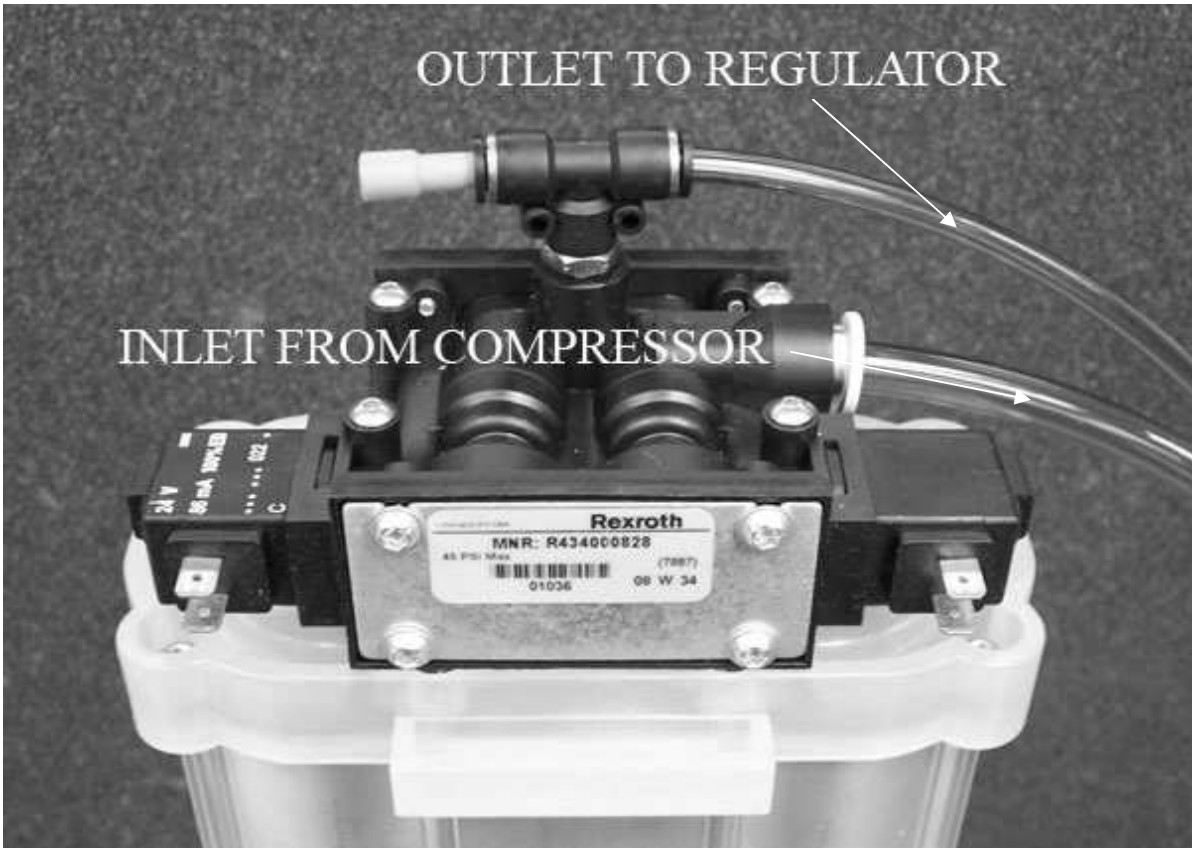
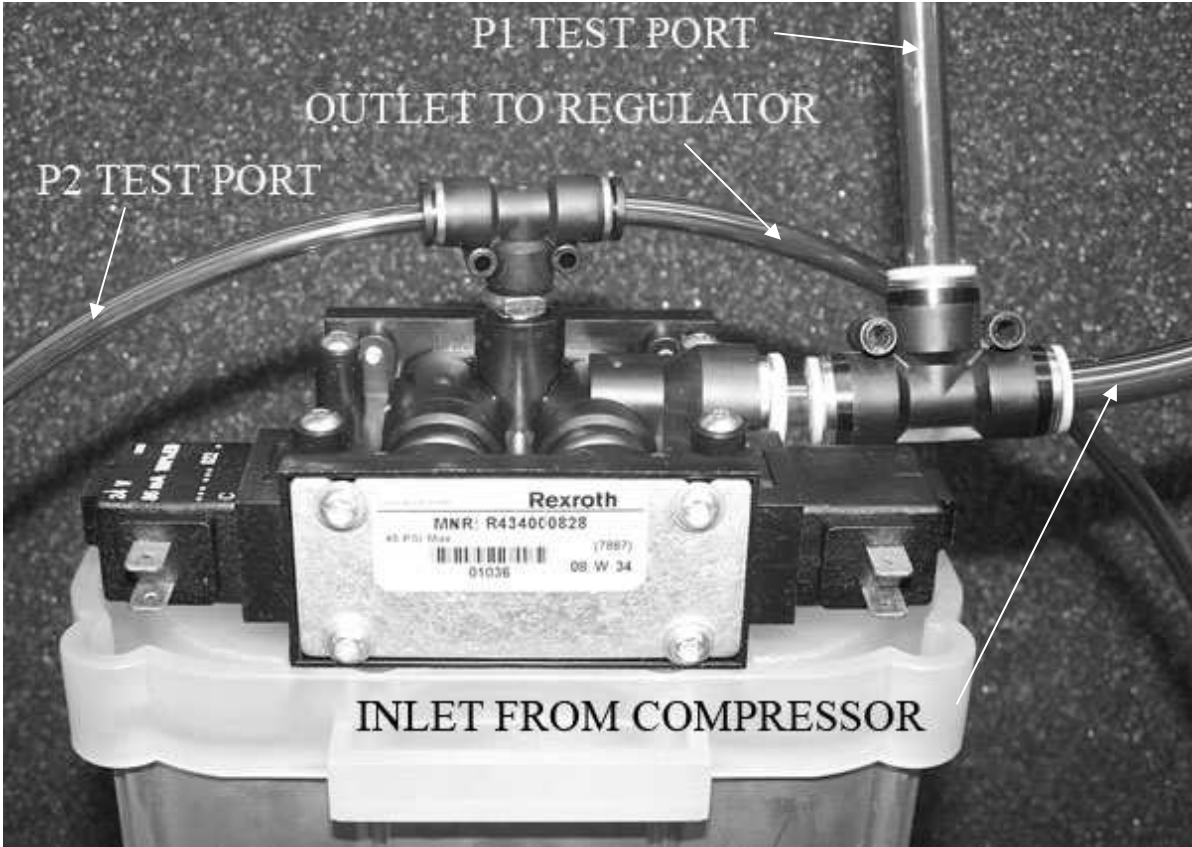

Fig. 6.1.1
Fig 6.1.2
3. Remove the air supply tubing going to the control valve and install the test port T-fitting. Figure 6.1.1 shows the normal operating configuration for the unit. Figure 6.1.2 shows the installation of the test ports.
3. Remove the plug from the T-fitting atop the valve and install the test port tubing (1/4" OD tubing is required). Figure 6.1.1 shows the normal operating configuration for each unit. Figure 6.1.2 shows the installation of the test port tubing.